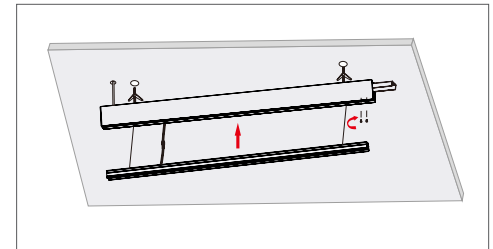

FIGURE 6-6
- 6) Secure the housing to the ceiling using the butterfly drywall anchor "A" (Figure 6-6)
- 7) Insert the joiner into the Start-of-Run fixture housing and secure using screws. (Figure 6-6)